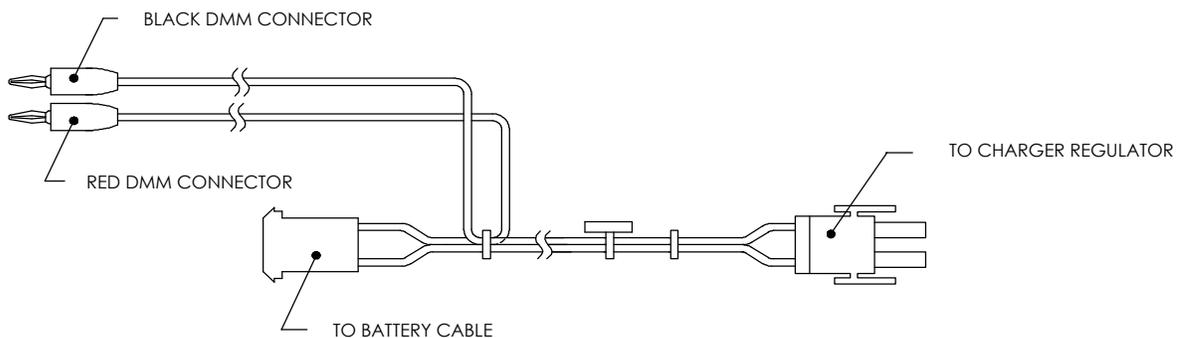

Figure 94: Current measurement troubleshooting cable
4. Connect the current measurement troubleshooting cable (Figure 94) to a known, good battery. Reconnect to the μ FLO^{G5} board.